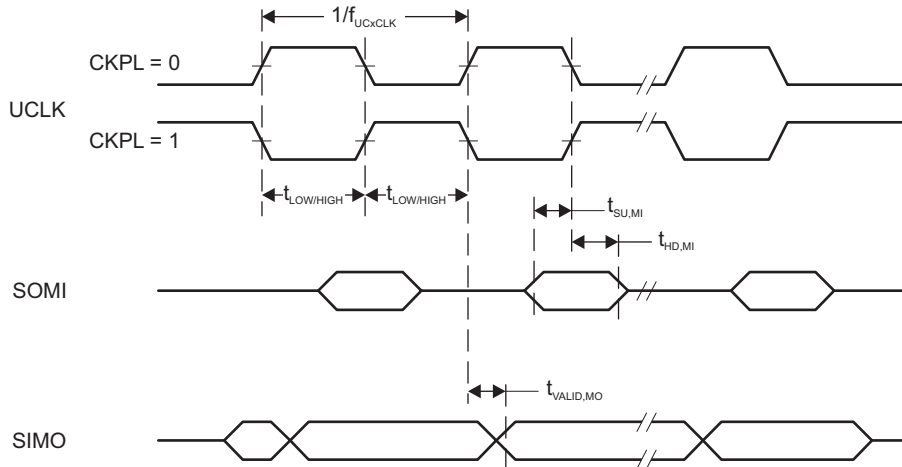
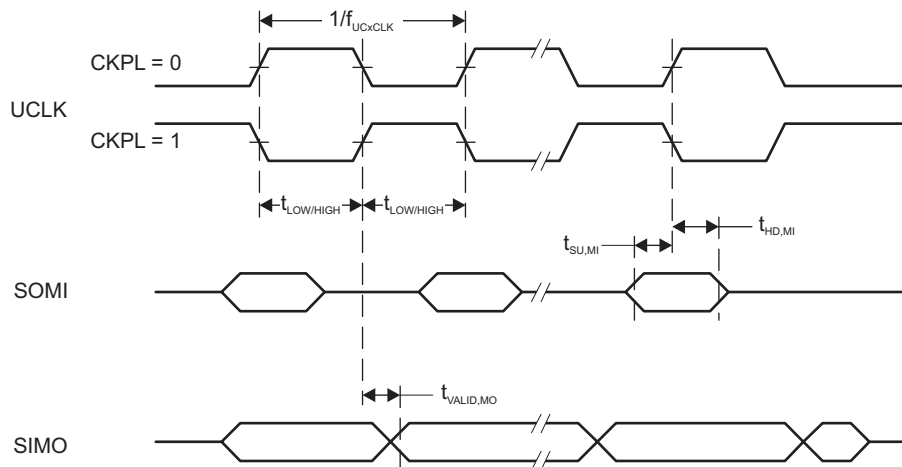

Figure 5-12. SPI Master Mode, CKPH = 0
Figure 5-13. SPI Master Mode, CKPH = 1
(2) Specifies the time to drive the next valid data to the SIMO output after the output changing UCLK clock edge. See the timing diagrams in Figure 5-12 and Figure 5-13.
(3) Specifies how long data on the SIMO output is valid after the output changing UCLK clock edge. Negative values indicate that the data on the SIMO output can become invalid before the output changing clock edge observed on UCLK. See the timing diagrams in Figure 5-12 and Figure 5-13.